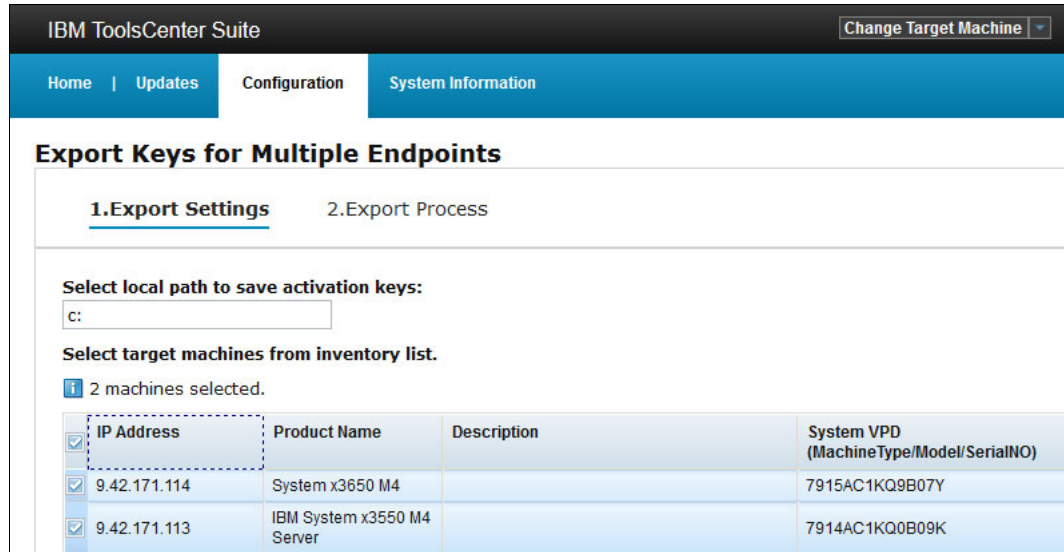

Figure 3-64 Export keys menu
- In the Select local path to save activation keys field, enter the local directory to save the exported keys, as shown in Figure 3-64.